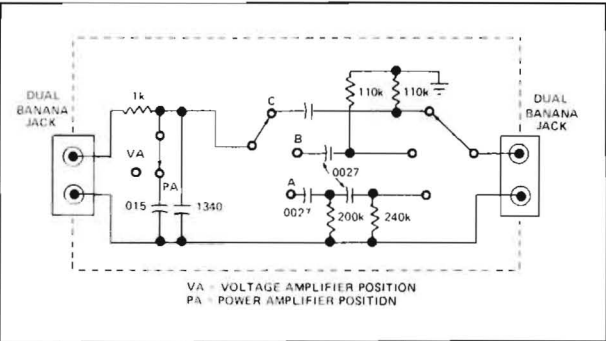
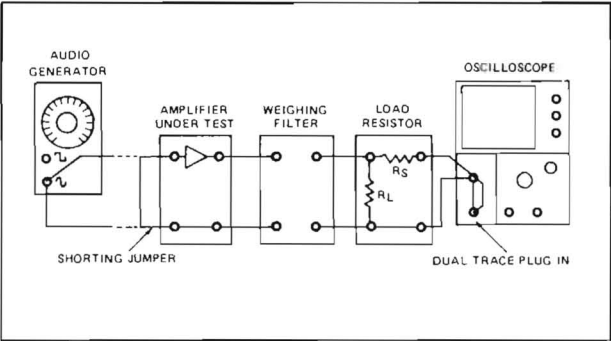

Figure 39 Weighting Network
Figure 40 Equipment Setup for Weighted Signal to Noise Tests
Various weighting filters may be specified for different kinds of equipment. The schematic of one commonly used type is shown in Figure 39.
To measure noise as recommended by the EIA standard the B section of the weighting filter shown in Figure 39 should be inserted in the test setup as shown in Figure 40.
- 1. Set up the equipment as shown in Figure 40. Short the amplifier input. A dual trace vertical plug-in such as the Tektronix 5A18N must be used. If this procedure is used without a weighting filter, some form of a frequency limiting filter (usually a 15 kHz low pass) MUST be used.